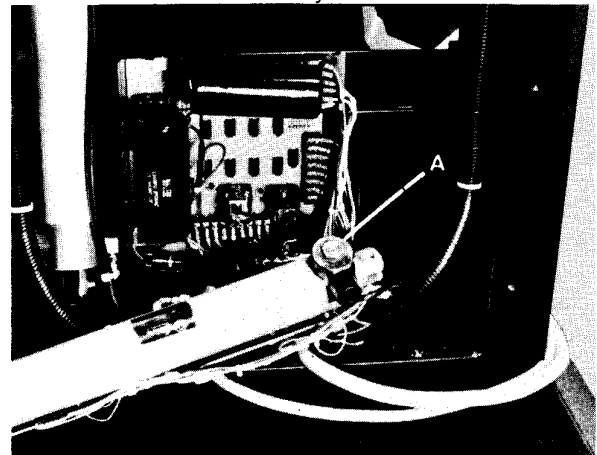

Fig. 37
- 3) Remove defective solenoid, Item A, Fig. 37 from the cylinder by removing the large nut with a  $\frac{3}{4}$ " wrench and pulling solenoid off of valve stem.
- 4) Install new solenoid, Item A, Fig. 37 on cylinder by placing solenoid on valve stem and securing with the large nut.